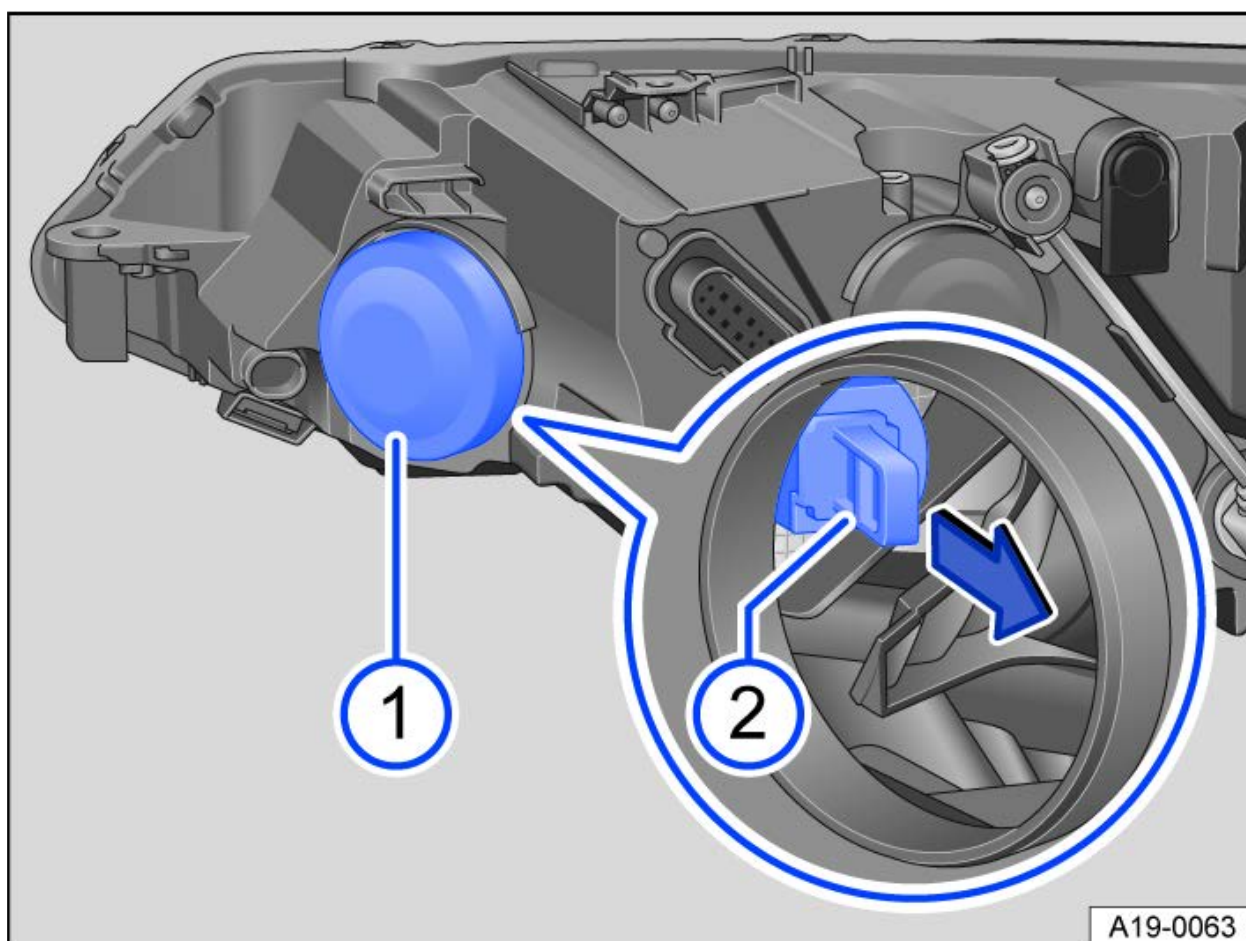

Fig. 1 In the right-side of the engine compartment: Rear side of the headlights.
- Remove rubber cover → *fig. 1* .
- Pull out the lamp holder → *fig. 1*  by the handle in the direction of the arrow. At the same time, press the handle slightly up and down alternately, in order to aid removal.
- Carefully insert the lamp holder in the headlight and press it forwards until it perceptibly engages → *fig. 1*.